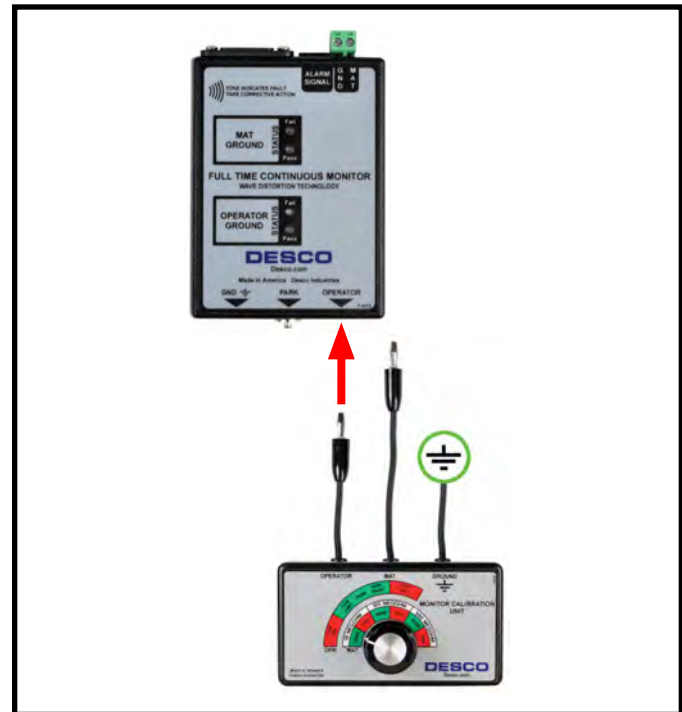

Figure 2. Connecting the OPERATOR test lead from the Monitor Calibration Unit to the Full Time Continuous Monitor
**Step 2:** Insert the Calibration Unit’s banana plug labeled “OPERATOR” into the jack labeled “OPERATOR” on the Full Time Continuous Monitor (see Figure 2). Power the monitor.